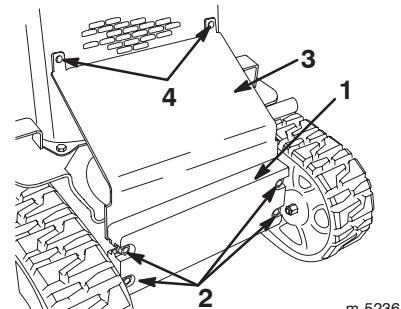

Figure 20
2. Loosen the bolts securing the front weight (Fig. 20).
3. Remove the carriage bolts and nuts securing the heat shield (Fig. 20).
10. Slide the front screen between the frame and the front weight and secure it to the grill using the carriage bolts and nuts removed previously (Fig. 20).
11. Tighten the bolts securing the front weight (Fig. 20).